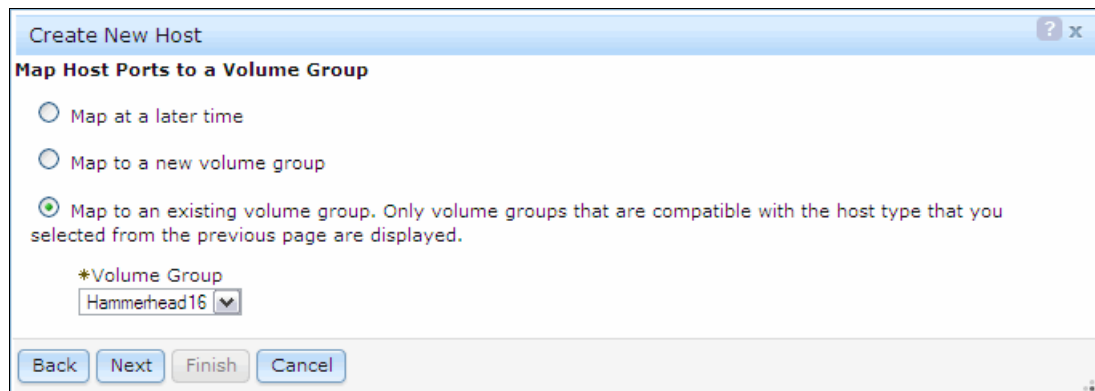

Figure 13-39 Map Host Ports to a Volume Group window
3. The Map Host Ports to a Volume Group window displays as shown in Figure 13-39 on page 338. In this window, you can choose the following options: